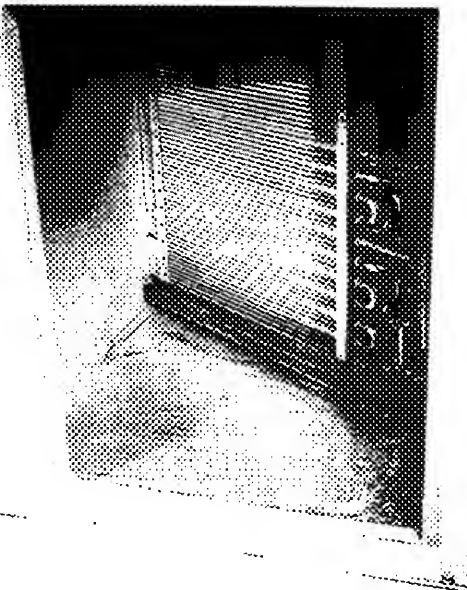

Fig. 17 – Lance Location for Vertical Duct Opening Cover
3. Locate lances in basepan insulation that are placed over the perimeter of the vertical duct opening cover (Fig. 17).